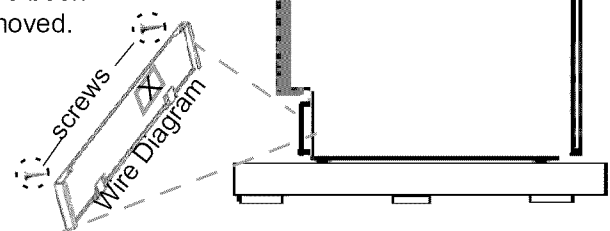
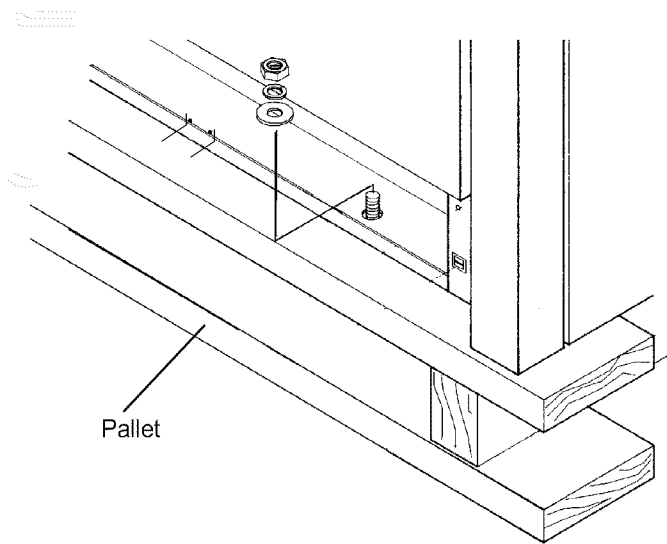

Figure 4: Remove Kick Panel
Figure 5: Removal of the Four Shipping Bolts
3. The ranges are held to the pallet by four (4) bolts (see *Figure 5*). The front kick panel must be removed to access the bolts in the front of the pallet (see *Figure 4*). To remove the Kick Panel, remove the two screws below the lower corners of the oven cavity and lift the Kick Panel away from the two projections on the range's cast base (see also "*Kick Panel Adjustment*" on page 26).